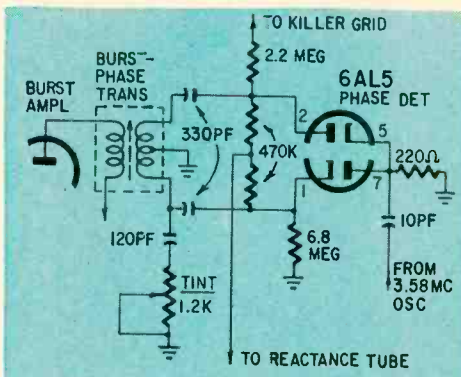

Fig. 2—Automatic frequency-phase control detector. You've seen circuits like this in FM radio and black-and-white TV.
2. Phase detector, sometimes called afpc and other complex names (Fig. 2). Don't let 'em fool you—it's just a plain old ratio detector, discriminator or whatever you want to call it! Compares the phase of the burst signal from the transformer with the signal being developed by the local oscillator, and develops a dc correction voltage to apply to the...